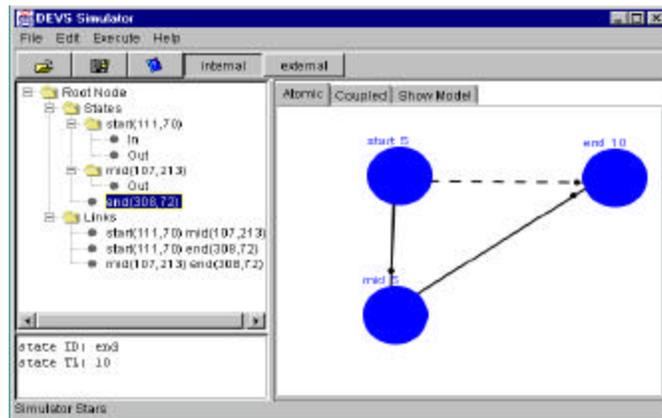

Fig 6
- To draw a link between two units, press the left button on one unit, hold the button and drag the mouse to another unit, release the button. A link with pre-selected type will be drawn. A small solid circle on the link represents the direction. Fig 6 shows the result.